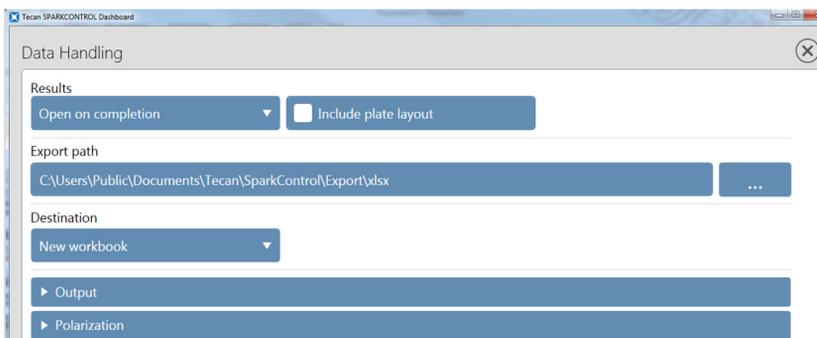

Figure 26. Exporting a Data File in SparkControl Software; Choosing export path and deselecting plate layout.
- 3 Deselect the **Include plate layout**, if selected, and choose the export path if needed. See Figure 26.